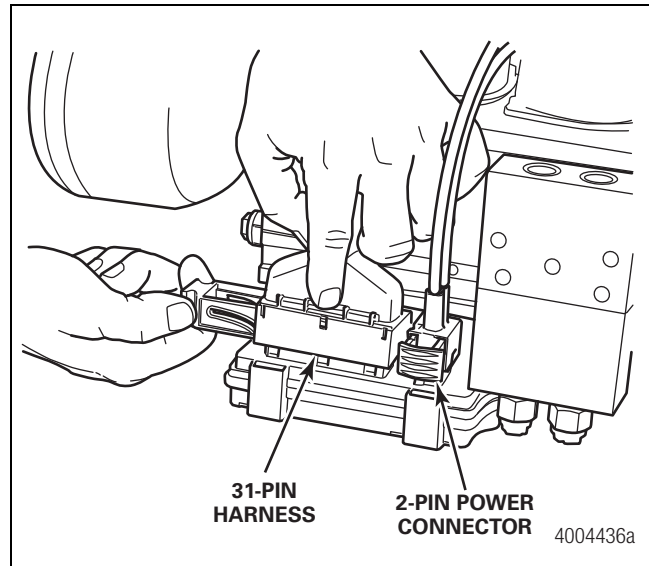

Figure 4.4
- 14. Open the latches on the two-pin power connector and the 31-pin harness attached to the ECU. After the latch is released, remove the connectors from the ECU. Figure 4.4.